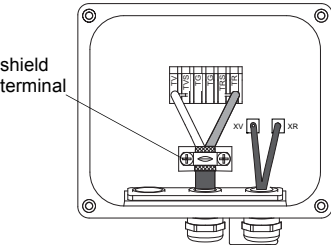
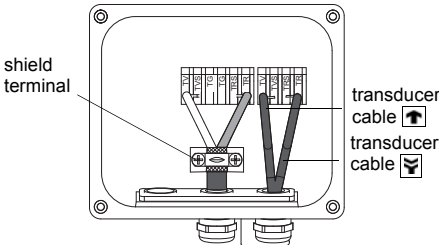

Fig. 6.4: Junction box JB02, JB03
Fig. 6.5: Junction box JBP2, JBP3
- Pull the extension cable back until the brushed back external shield is below the shield terminal of the junction box (see Fig. 6.4 or Fig. 6.5).
- Fix the extension cable and the external shield to the shield terminal of the junction box (see Fig. 6.4 or Fig. 6.5).
- Connect the leads to the terminals of the junction box (see Fig. 6.4 or Fig. 6.5 and Table 6.2).
- Remove the blind plug from the junction box (see Fig. 6.4).
- Connect the SMB connectors to the sockets of the junction box (see Fig. 6.4 and Table 6.3).
- Remove the blind plug from the junction box (see Fig. 6.5).
- Connect the leads to the terminals of the junction box (see Fig. 6.5 and Table 6.4).